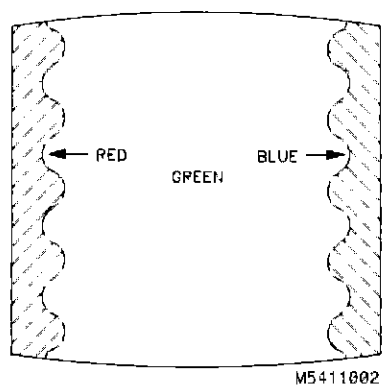

Figure 3-11. Purity Magnet Adjustment Raster
6. Move deflection yoke rearward until left edge of raster turns red and right side of raster turns blue (see figure 3-11)
7. Adjust purity magnets until green is in center of raster with red and blue bands evenly distributed on the sides (see figure 3-11).